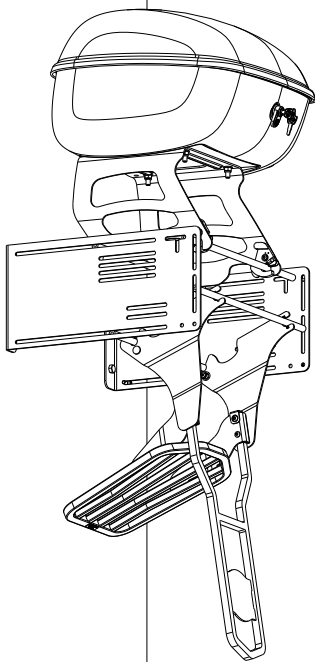

Figure 3. Wall Rack with Sport Tour-Pak and Sissybar/Luggage Rack
4. See Figure 3. Sport Tour-Paks and sissybars can be mounted directly to the rods of the Wall Rack.